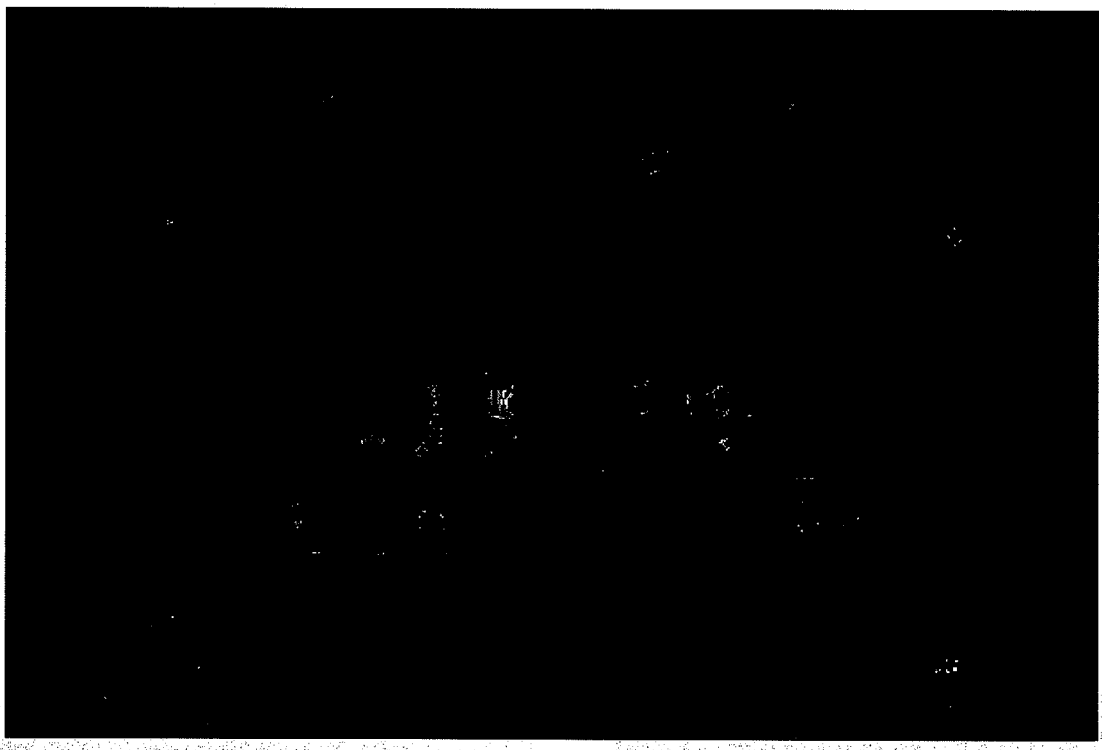

Figure 1
**MACHINE CONTROL PANEL BOOST 32****Key Switch** (See Figure 1 & 2, Item "A")
**Traverse Speed Switch** (See Figure 1 & 2, Item "B")
**Brush Up/Down Switch** (See Figure 1 & 2, Item "C")
**Solution Control Knob** (See Figure 1 & 2, Item "D")
**Forward Switch** (See Figure 1 & 2, Item "E")
**Reverse Switch** (See Figure 1 & 2, Item "F")
**Charge / Battery Meter** (See Figure 1 & 2, Item "G")
**Circuit Breakers** (See Figure 1 & 2, Item "H"- "K")